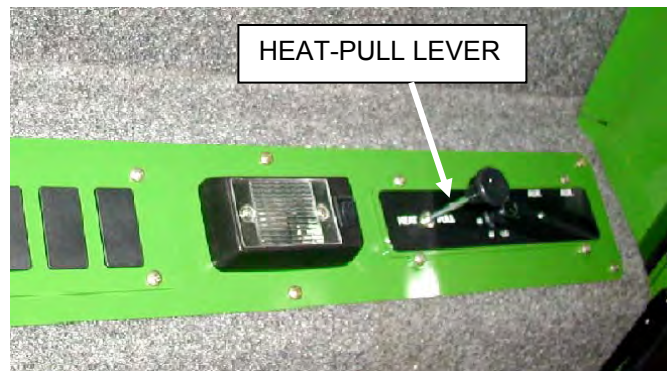

Figure 4-14
- 4.14) Fill the radiator. Start the engine and let it run at fast idle. From the inside of the cab, pull the heat-pull lever out (See Figure 4-14), to circulate fluid through the heater lines. It may take several minutes to purge the air from the lines. Check the radiator level and add fluid until system is free of air.